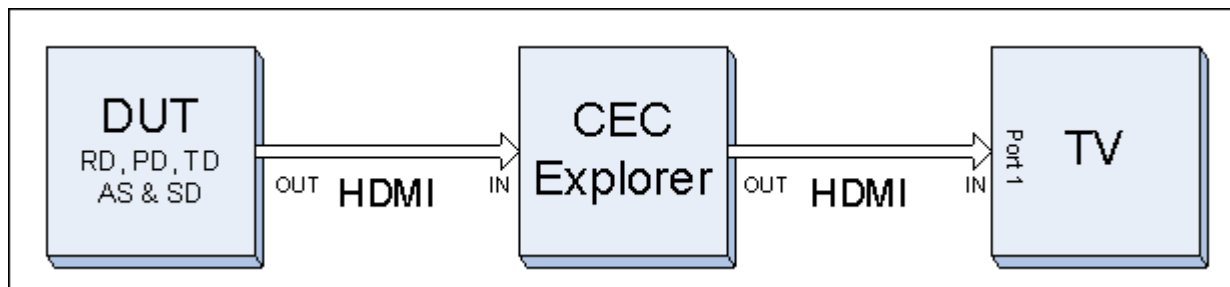

Figure 63: Source Device to TV Configuration
- A source DUT shall be connected to the HDMI IN port. In this case the TV's HDMI IN port 1 has to be connected to the OUT1 port (Figure 63).